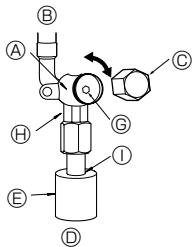
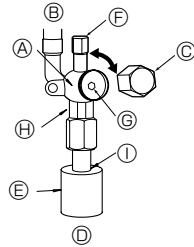

Fig. 4-5
Fig. 4-6
(1) Gas side of P100-P140 (Fig. 4-5)
- ① Remove the cap and turn the valve rod counterclockwise as far as it will go with the use of a 5 mm hexagonal wrench. Stop turning when it hits the stopper. ($\phi 15.88$: Approximately 13 revolutions)
- ② Make sure that the stop valve is open completely and rotate the cap back to its original position.
(2) Liquid side of P100-P140 (Fig. 4-6)
- ① Remove the cap and turn the valve rod counterclockwise as far as it will go with the use of a 4 mm hexagonal wrench. Stop turning when it hits the stopper. ($\phi 9.52$: Approximately 10 revolutions)